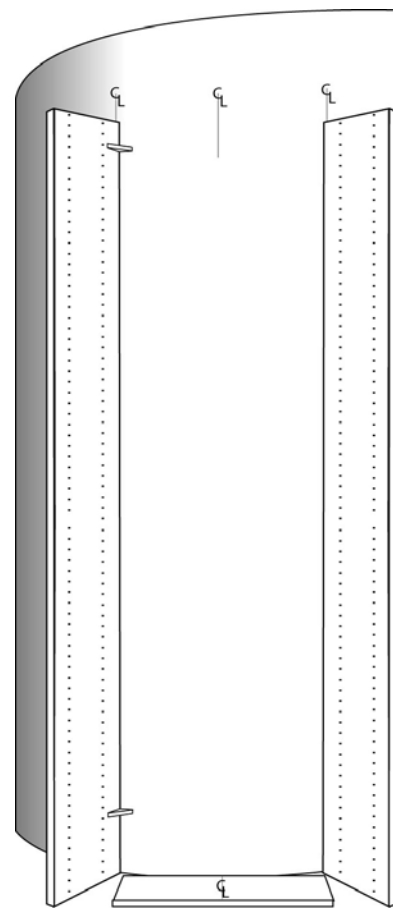
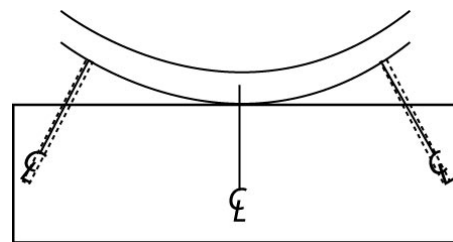

Fig. 6
Fig. 7
5. Fasten the partition to the curved wall using two plastic angle brackets near the top and bottom on one side (Fig. 6).
Position a shelf of this maximum width, centered on top of two fastened partitions, with its back edge center flush with the wall curve apex (center). Make six (6) marks (3 on the shelf, 3 on the wall): the center top edges of each partition on the wall and on the shelf; and the center between the two partitions (the curve apex) and the center of the back of the shelf (Figs. 6 & 7). Use a carpenter's square if necessary to align the marks. Match all corresponding lines together where they meet. (Remember, your lines on the back of the shelf need to be long, as part of them will be trimmed away when you cut the back curve of the shelf.) (Fig. 7)